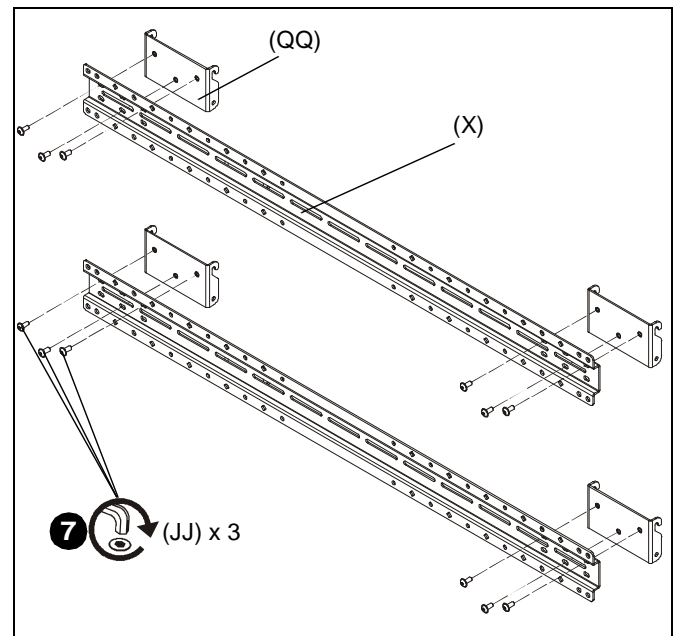

Figure 6
7. Use three 5/16-18 x 3/4" button head flange screws (JJ) to secure each of the four quick connect brackets (QQ) to wall plates (X). Must use exact holes as shown. (See Figure 6)